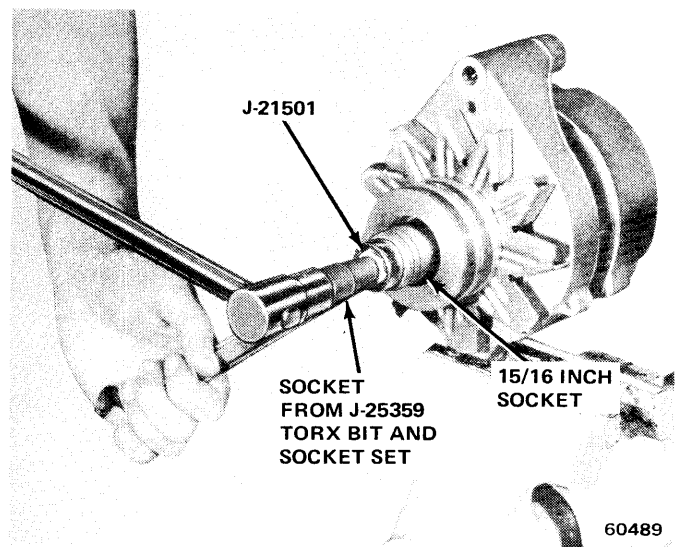
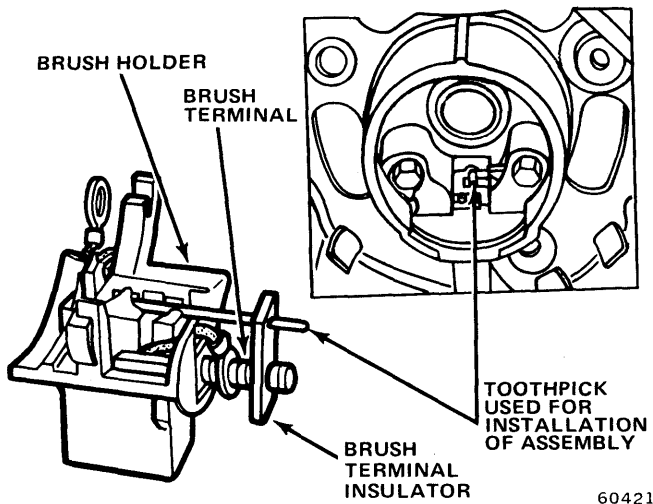

Fig. 3-19 Pulley Removal and Installation
Fig. 3-20 Brush Holder Assembly Installation
(10) Separate rectifier assembly from stator.
(11) Clamp front housing in vise and remove drive pulley nut using Tool J-21501 (fig. 3-19).
(12) Remove lockwasher, pulley, fan, fan spacer, front housing, and front bearing spacer from rotor shaft.
(13) Remove front end bearing retainer screws and remove retainer. If bearing is damaged or has lost its lubricant, support housing close to bearing boss and press out bearing.
(14) Test stator, rectifier, and rotor.
(3) Position front housing, fan spacer, fan, pulley and lockwasher on rotor shaft. Install drive pulley nut.
(4) Clamp front housing in vise and tighten drive pulley nut to 60 to 100 foot-pounds torque (fig. 3-19).
(5) If rear housing bearing was removed, support housing near bearing boss and press in replacement bearing flush with outer housing.
(6) Place brush springs, brushes, brush terminal and terminal insulator in brush holder and hold brushes in position by inserting a wooden or plastic toothpick in brush holder (fig. 3-20).